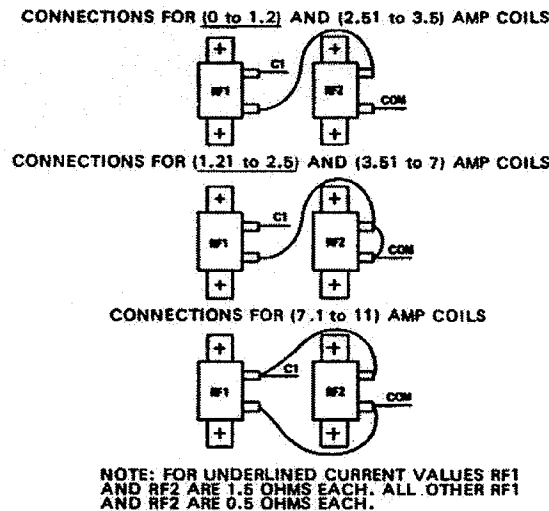

Figure 1 (RF) Feedback Resistor Connections
- F. Verify that the feedback resistor (RF) mounted on panel is jumpered correctly for clutch current. See Figure 1. Hot clutch current rating can be found on the nameplate mounted on the clutch housing.